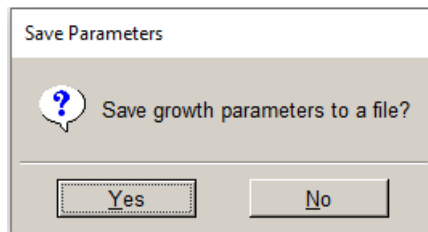

Figure 2.46 Save growth parameters dialog.
**Finish** to proceed. You will be asked if you want to save the growth parameters to a file, Fig 2.46, you can select **No**.